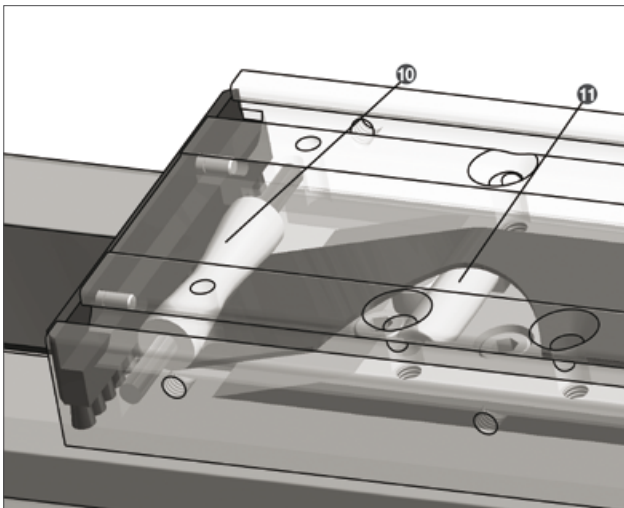

Figure 4.16 — Cover strip deflection
4. Make sure that the guiding roller **10** in the table unit and the pressure roller **11** in the slider plate can be easily moved and are free from wear, if applicable and clean or replace them (Figure 4.16). In the case of wear-related replacement of the cover strip, we always recommend replacing the guiding and pressure rollers as well (wear parts sets see Chapter 4.16).